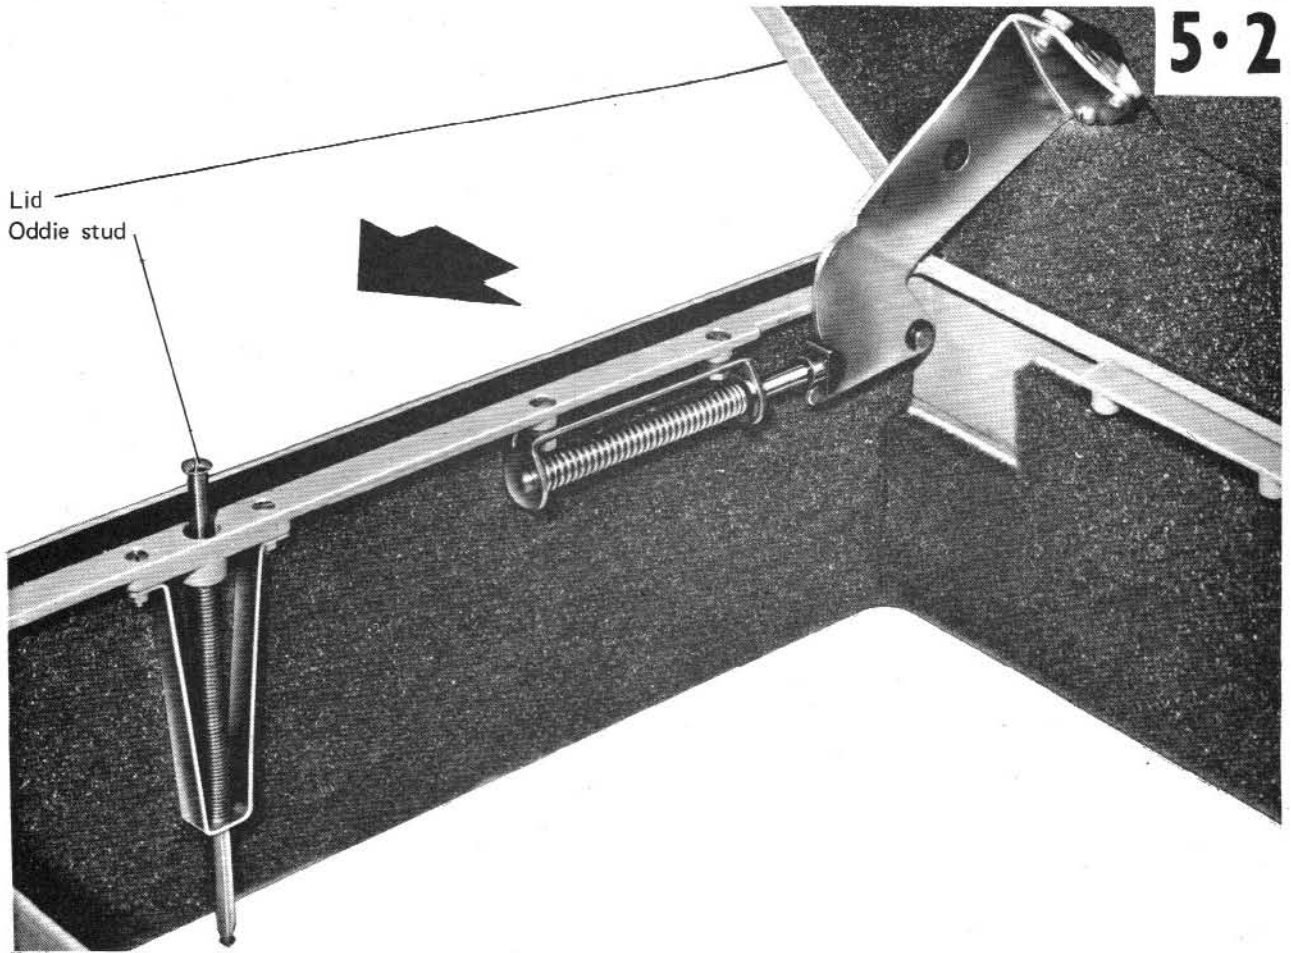

Fig 5.1 MACHINE COVER
28. MACHINE COVER Fig. 5.1, 5.2, 5.3